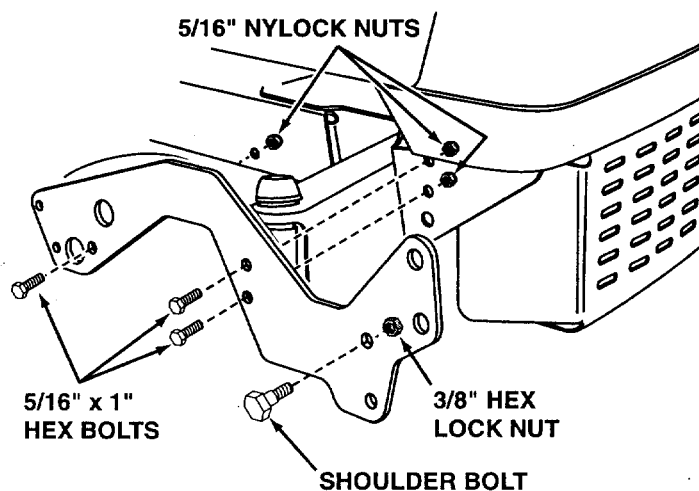

Figure 1
1. Attach a frame bracket to each side of the tractor frame. Assemble three 5/16" x 1" hex bolts and 5/16" nylock nuts to the holes shown figure 1.
2. Assemble a shoulder bolt and a 3/8" hex lock nut to the upper hole in each frame bracket as shown in figure 1.